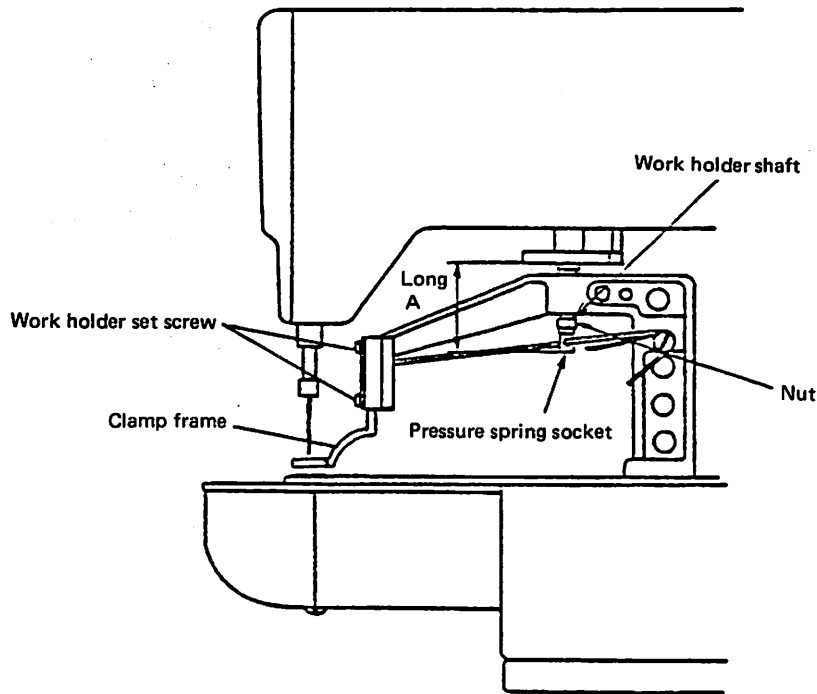

Fig. 8
4.5.1 To increase pressure, loosen the nut shown in Fig. 8 and turn the work holder shaft counter-clockwise using a spanner (thereby length "A" becomes larger).
To replace the clamp frame, remove the set screws shown in Fig. 8, remove the clamp frame and install a desired clamp frame.